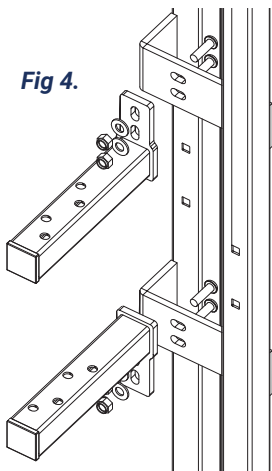

Fig 4.
1. Fix the arms to the bracket on the crush using 4no M12 x 40 socket button head screws (Fig 4). Do not tighten the bolts at this stage.